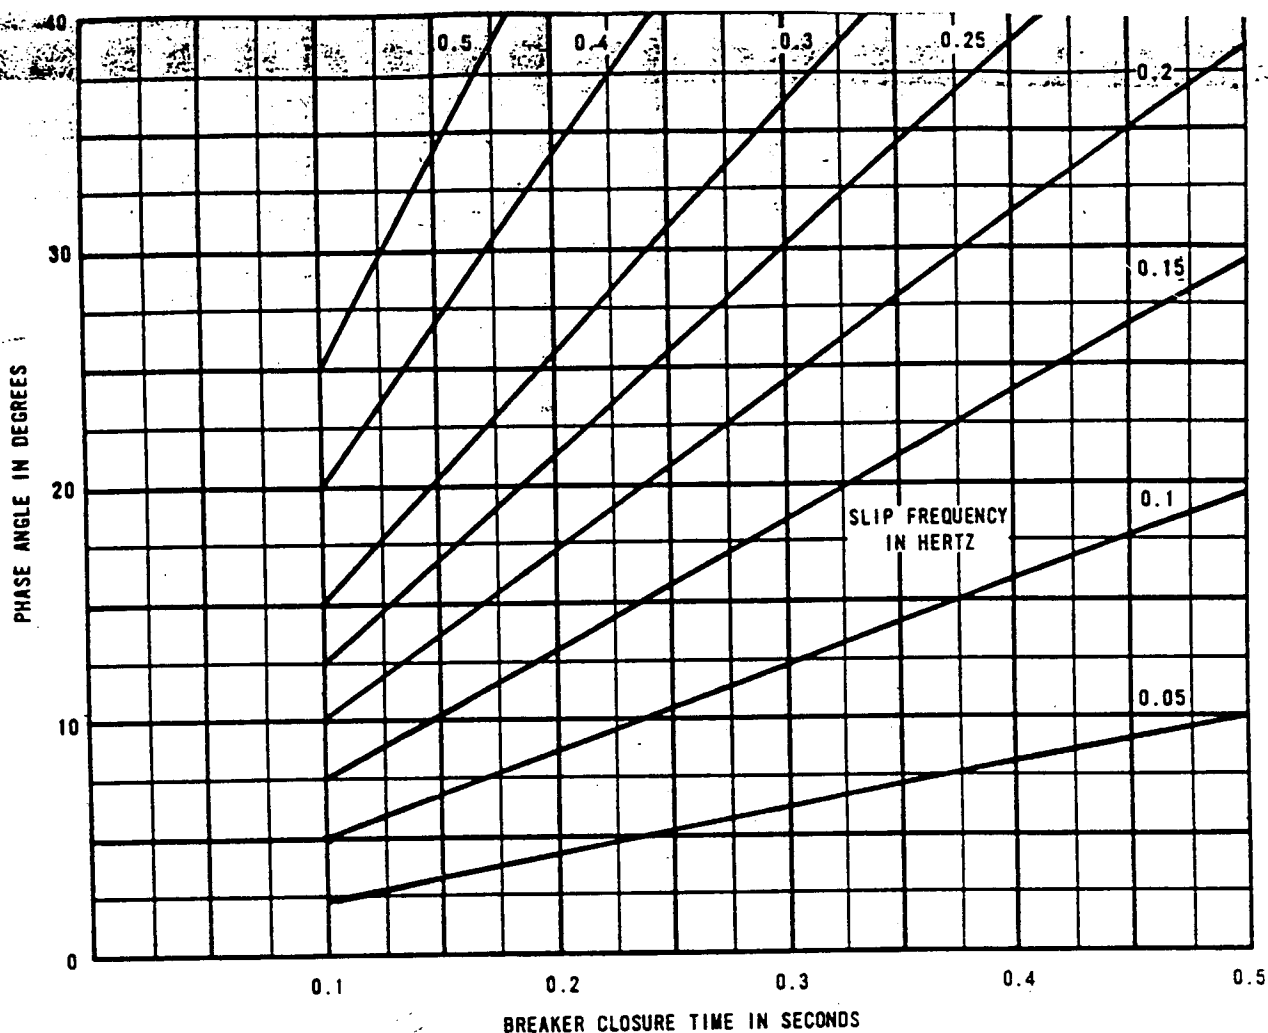

FIGURE 2-3: SLIP FREQUENCY ACCEPTANCE AT VARIOUS PHASE ANGLES AND CIRCUIT BREAKER CLOSURE TIMES
SLIP FREQUENCY ACCEPTANCE: See Figure 2-3.
2.4.4.1 The maximum slip frequency acceptable for synchronizing should be determined from system requirements. By referring to Figure 2-3, locate the intersection of the maximum slip frequency and the breaker closing time. From the graph, determine the phase angle setting.
2.5.3 Set the Voltage and Breaker Closing Time Adjustments as described in paragraphs 2.4.2 and 2.4.3. Then adjust the phase angle for the maximum desired slip frequency from the characteristic curves, Figure 2-3 as described in paragraph 2.4.4.